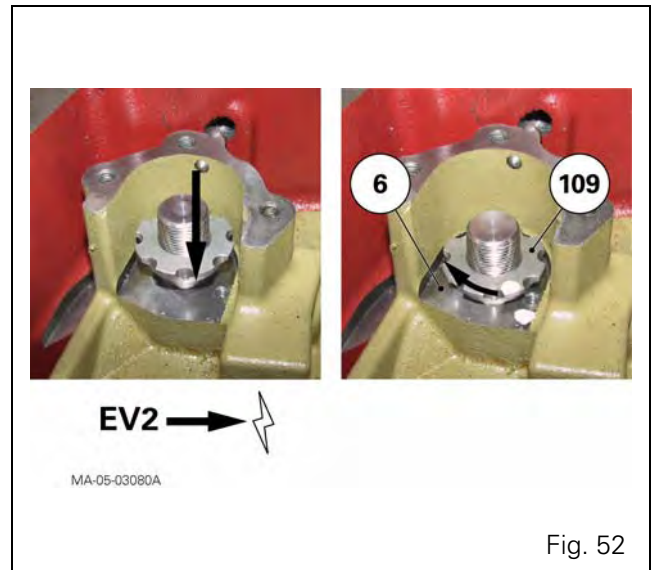

Fig. 52
132. Engage range 2. (Supply L53) (Fig. 52).
133. Tighten the nut (109) up against the cover (6) (Fig. 52).